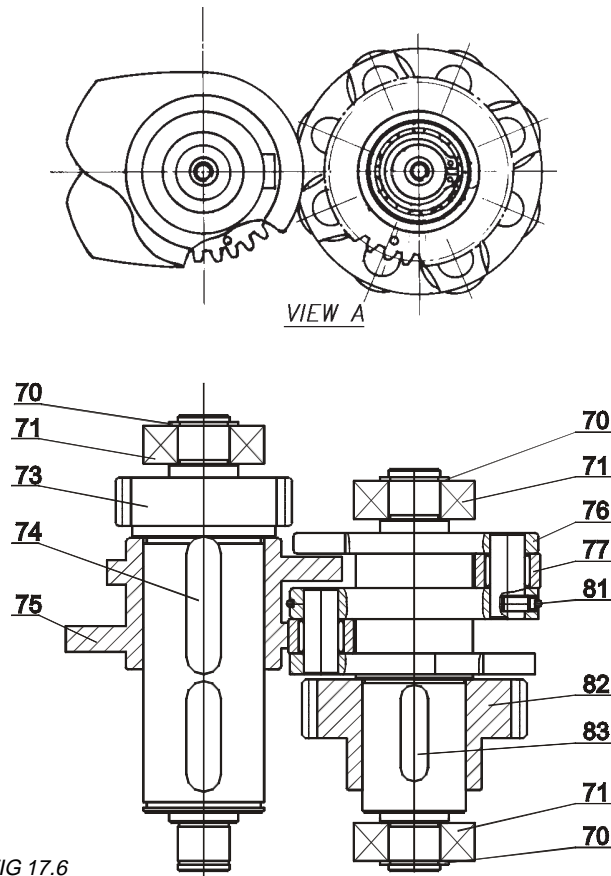

FIG 17.6
### 17.21 Assembly of Follower Shaft (Axis II): fig. 17.6.
### 17.22 Partial Assembly of Cam Shaft (Axis III):fig. 17.6.
Hold indexing drive subassemblies side by side in proper orientation as shown in Fig. 17.6. Circular parts of cam (75) should contact the rollers (78). Orientation marks on gears (73) and (83) should be positioned as shown in figure 17.6.